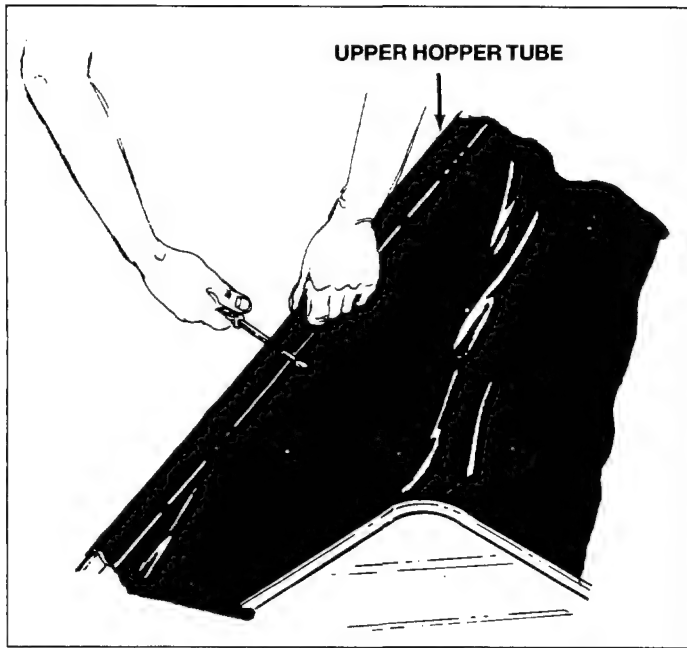

Fig. 22
12. Locate hole along side of upper hopper tubes and pierce a hole through the bag aligned with the hole in the tube. See figure 22.